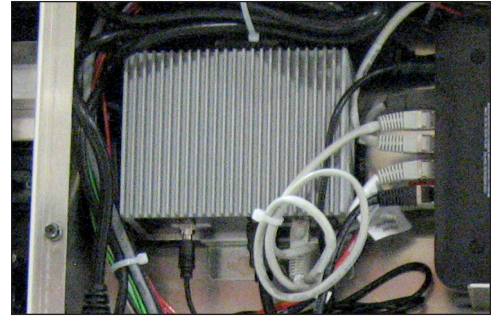

Figure 30: DMP-8000 Jacks and Bracket
2. Disconnect the HDMI cable from the DMP-8000. Refer to **Figure 30**.